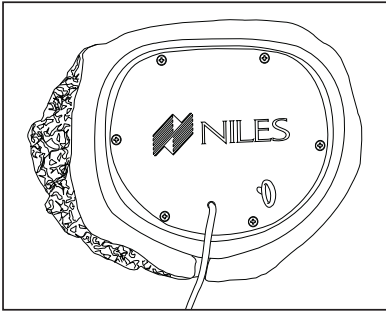

Figure 6.
1. With the loudspeaker in the proper location, turn the loudspeaker over so the bottom of the loudspeaker is facing you, as shown in **Figure 6**.